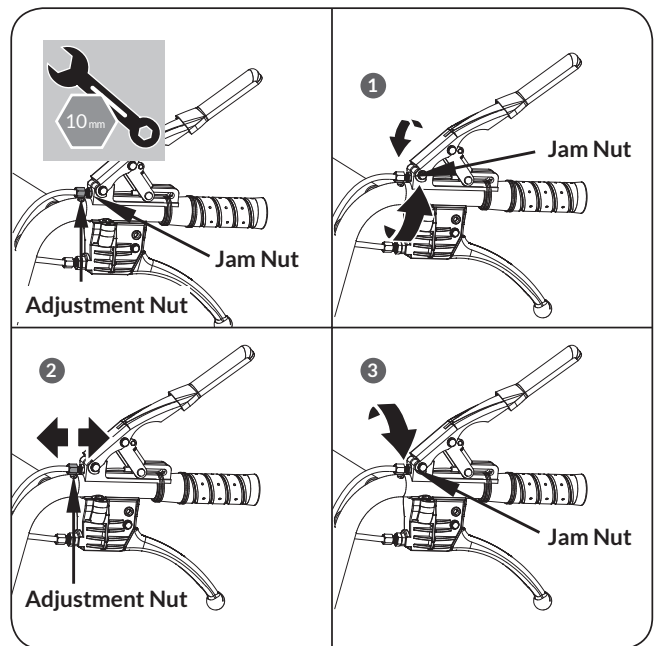

Figure 4
1. Loosen the jam nut by turning it counter clockwise with 10mm wrench. (see **Figure 4, Illustration 1**)
2. Tighten or loosen the cable by turning the cable adjustment nut clockwise or counter clockwise with 10mm wrench until you have reached your required tightness. (See **Figure 4, Illustration 2**)
3. Once tightness is set, return the jam nut against the handle to hold the cable in place. (See **Figure 4, Illustration 3**)